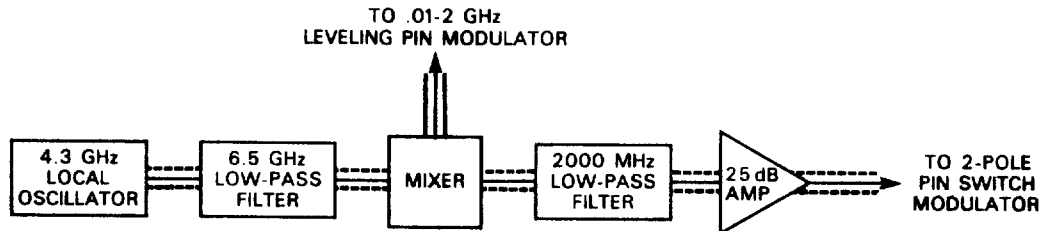

Figure 1
- D. On page 4-3, change Figure 4-1 as shown in Figure 1 below and delete the Downconverter Bias Supply.